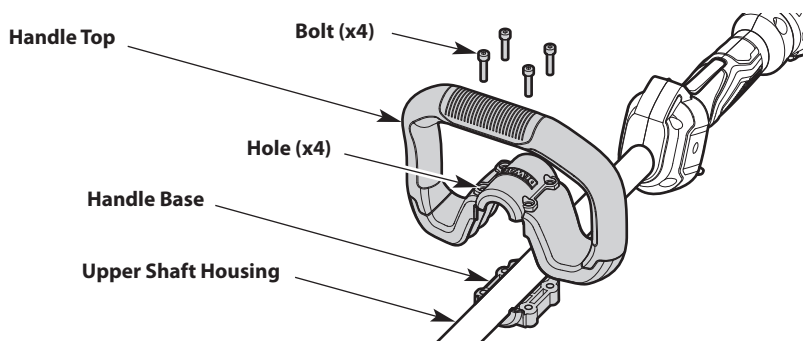

Fig. 4
1. Press and hold the handle base against the underside of the upper shaft housing (Fig. 4).
2. Press the handle top onto the handle base until they snap together (Fig. 4).
3. Insert the bolts (x4) into the holes (x4) (Fig. 4).
1. Loosen the bolts slightly (Fig. 4). Use a 5/32-inch (4 mm) Allen wrench.